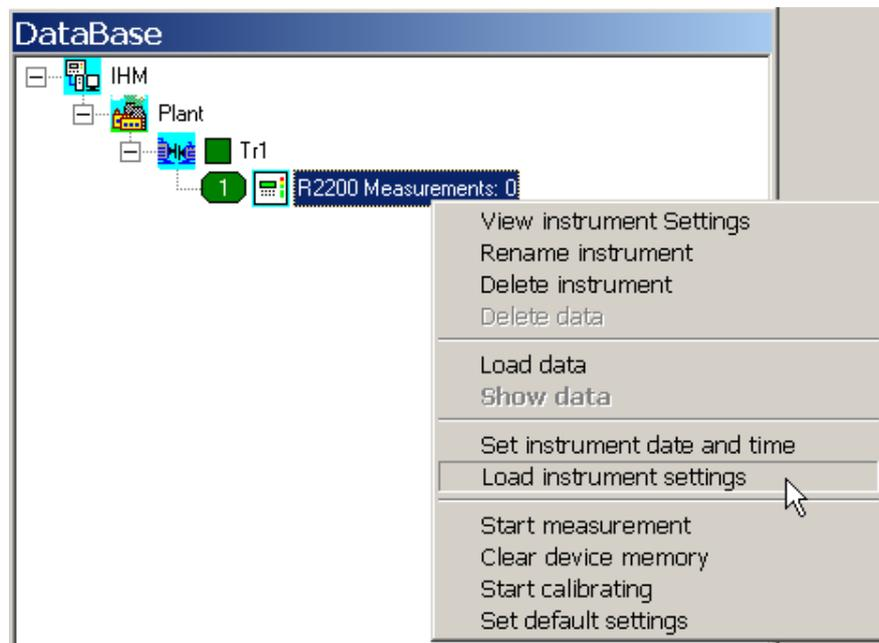
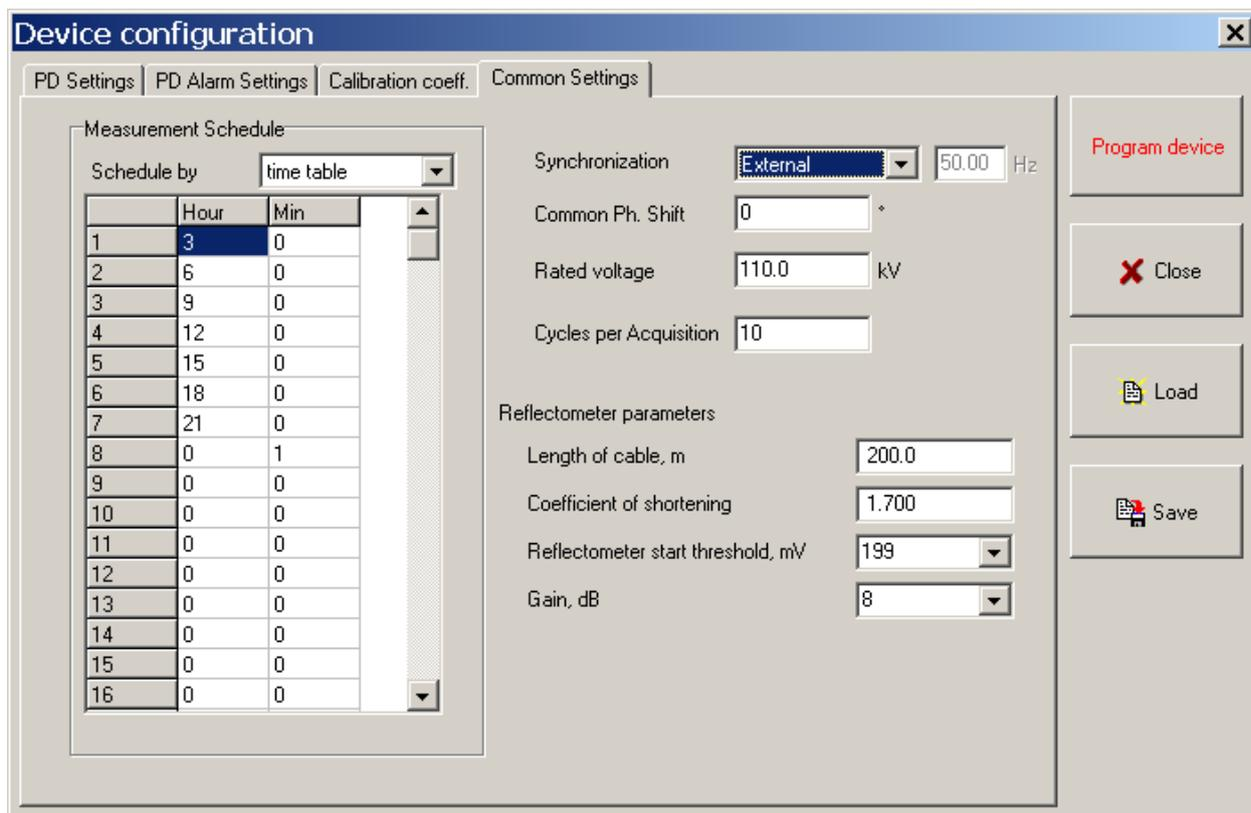

Figure 4.1. Viewing and prompting of device configuration.
Figure 4.2. Viewing and prompting of device configuration
4. Press right key of mouse on object «R2200» and choose "Configuration import" from device menu (figure 4.1.). Software will download configuration and open window for prompting (figure 4.2.);
Common parameters of registration and imagining are on insert "Device parameters" (figure 4.2.).